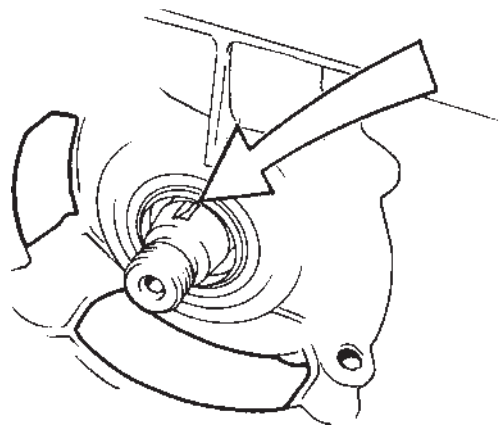

Figure 8.20 Avoid contacting seals with sharp edges of the keyslot.
- Install the crankshaft's tapered end into crankcase half "M." Avoid damaging crankcase seals with the sharp edges of the crankshaft keyslot (Figure 8.20).